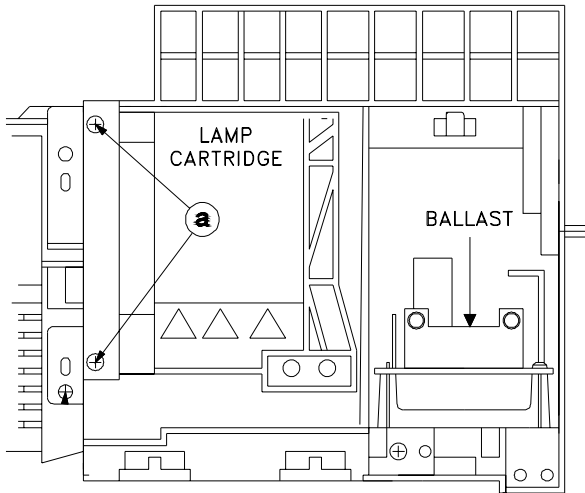

Figure 1: Duct Assembly (Rear View)
- 1) Loosen two screws (a) to remove the Lamp Cartridge, refer to *Figure 1*.